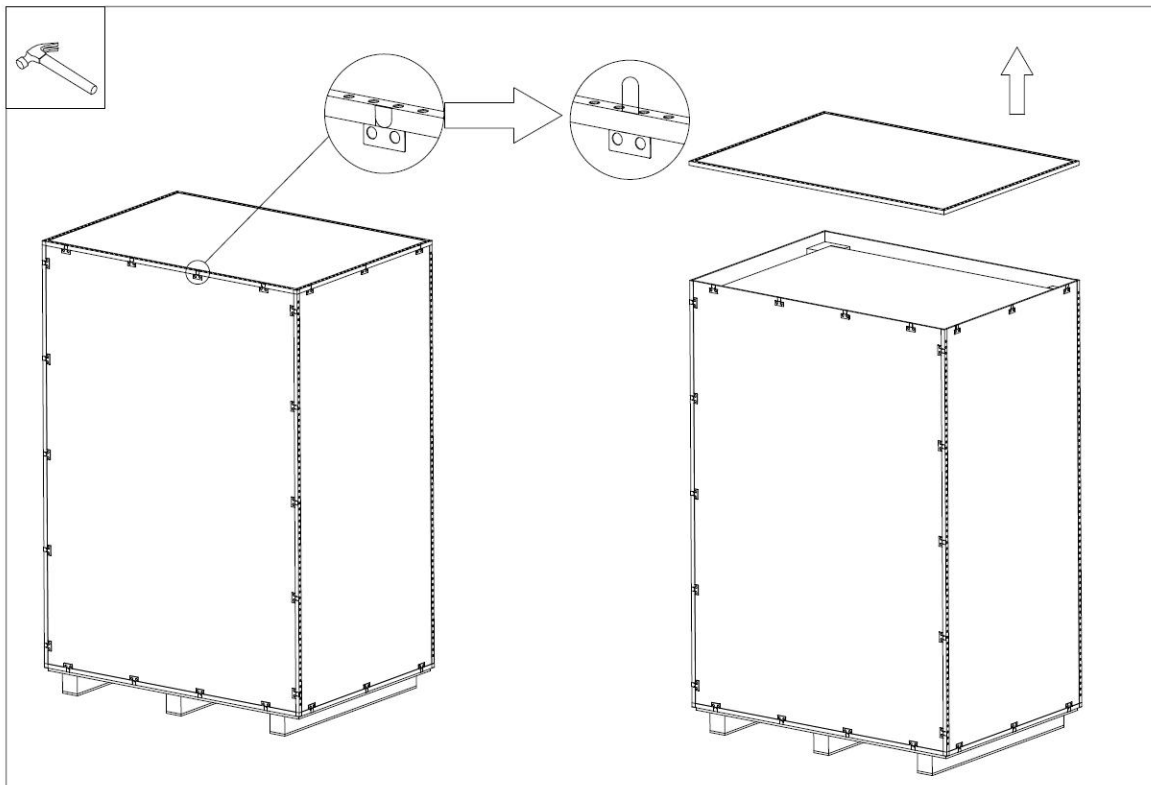

Figure 3.4.1-A.
1) With the help of the herringbone ladder, straighten the metal card on the top of the packing material with a claw hammer, and remove the upper cover plate. As shown in Figure 3.4.1-A.
2) Straighten all metal cards with a claw hammer, remove the surrounding wood boards, cut the PE bags wrapped around the cabinet with the art knife, and remove the PE bags and foam. As shown in Figure 3.4.1-B.